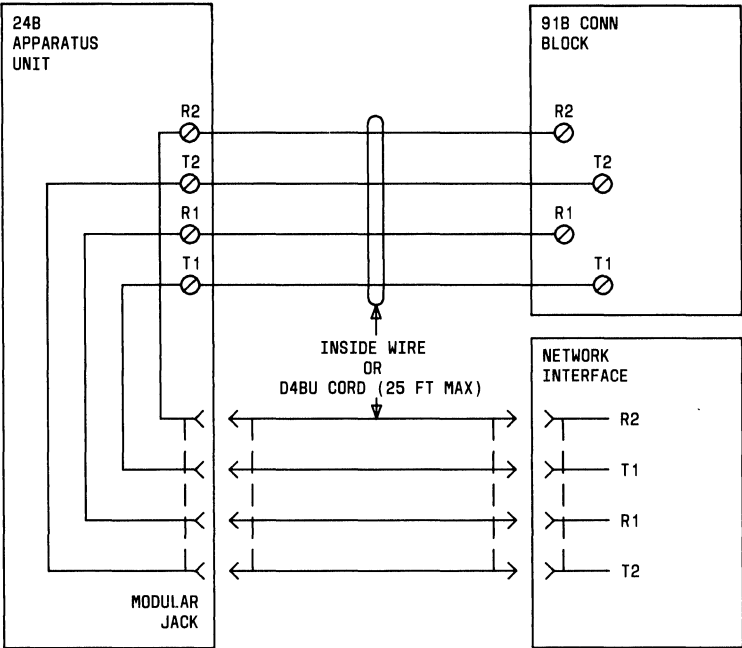

Fig. 33—Two Methods of Connecting 24B Apparatus Unit to CO/PBX Lines for Power Failure Ringing
(1) If the 24B is to be used with lines 1 and 2, either connect it with inside wire to the 91B block associated with the primary set where lines 1 and 2 are controlled or use a D4BU cord (25-foot maximum) to connect it directly to the network interface (Fig. 33). Skip to Step (3).
(2) If the 24B is to be used with lines 3 and 4, move the O (orange) lead from screw terminal 1-2 to 3-4 (do not disconnect any other leads). Either connect the 24B with inside wire to the 91B connecting block associated with the primary set where lines 3 and 4 are controlled or use a D4BU cord (25-foot maximum) to connect it directly to the network interface (Fig. 33).
(3) Remove the cable clamp(s) and plug in the system cable(s). Replace the clamp(s) using the tapped hole in the base pan or standoff to hold the cable securely.
(4) Replace the cover.
(5) Test the power failure ringing as described in paragraph 3.48.